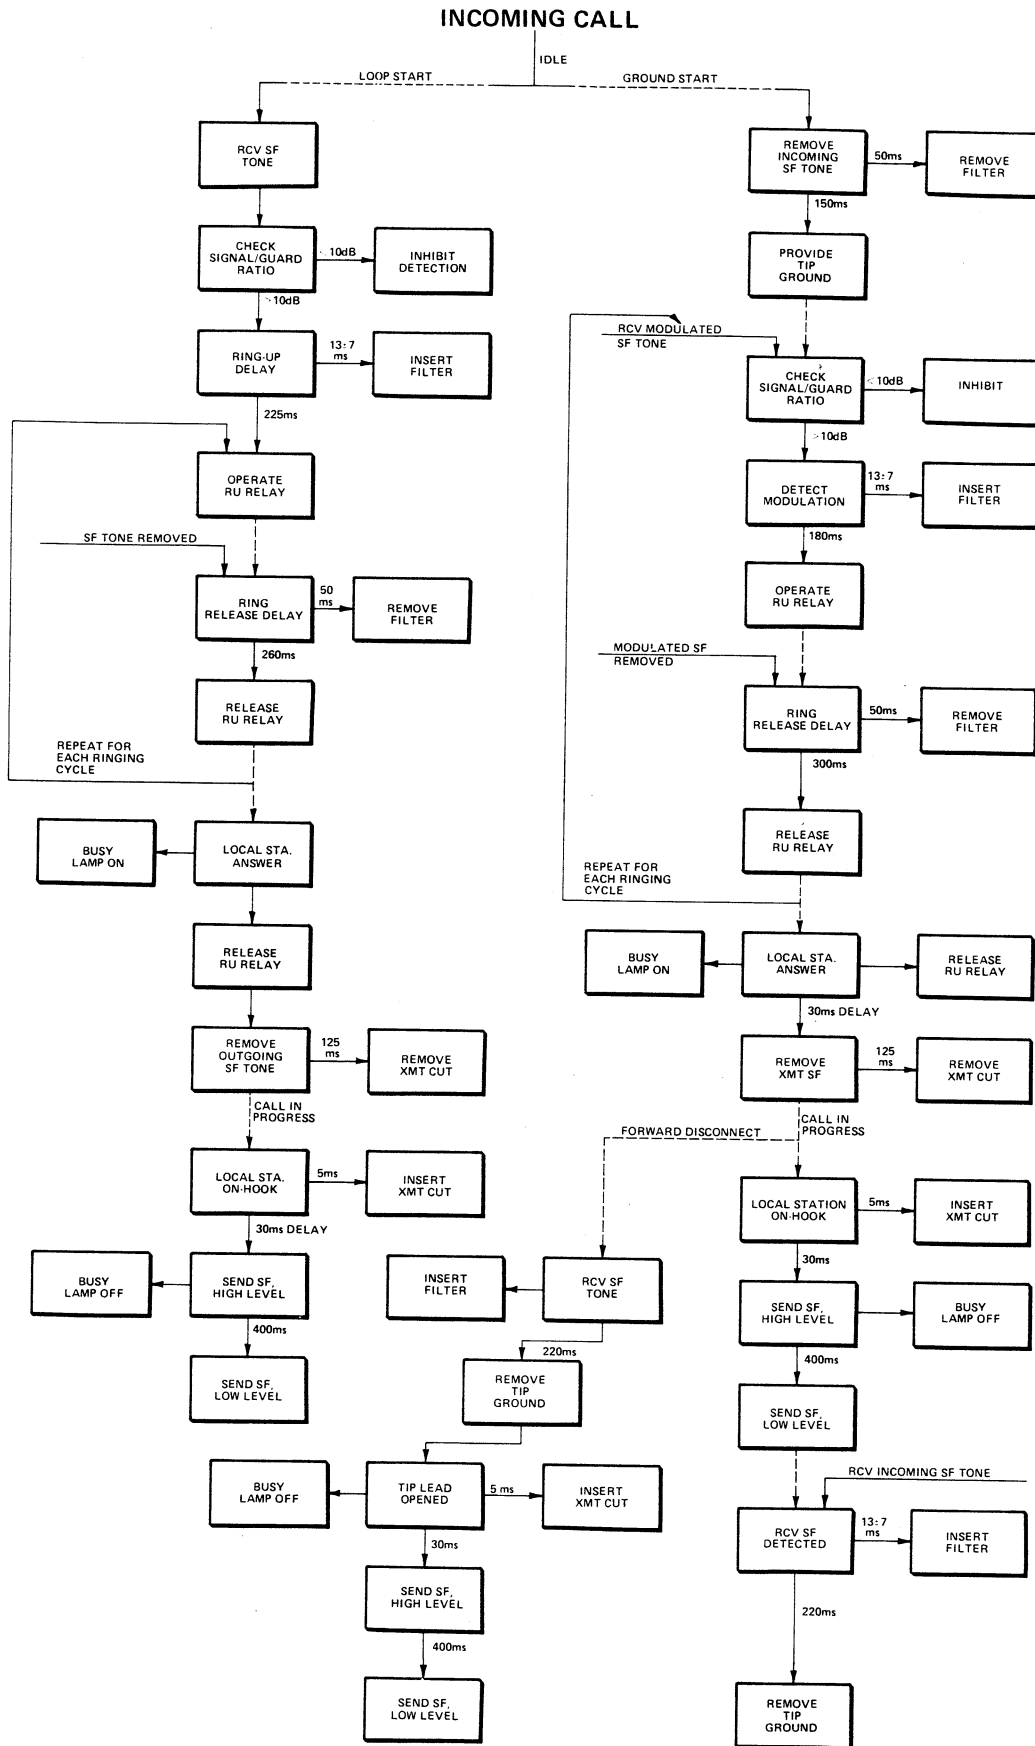

figure 8. Function sequence flowchart, incoming call
4.01 To provide the clearest possible understanding of the operation of the 6123 and 6123A 2Wire FXS SF Signaling Set modules, function sequence flowcharts (figures 8 and 9) that illustrate